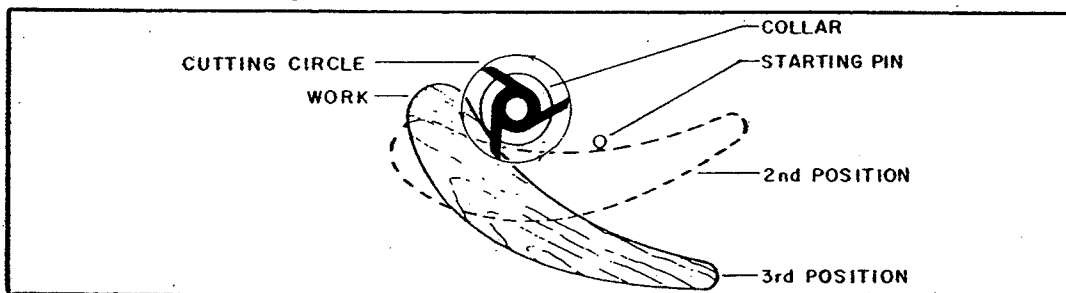

Fig. 35
3. After the cut has been started, the work is swung free of the starting pin and rides only against the collar as shown in the third position in Fig. 35. ALWAYS FEED AGAINST THE ACTION OF THE CUTTER.